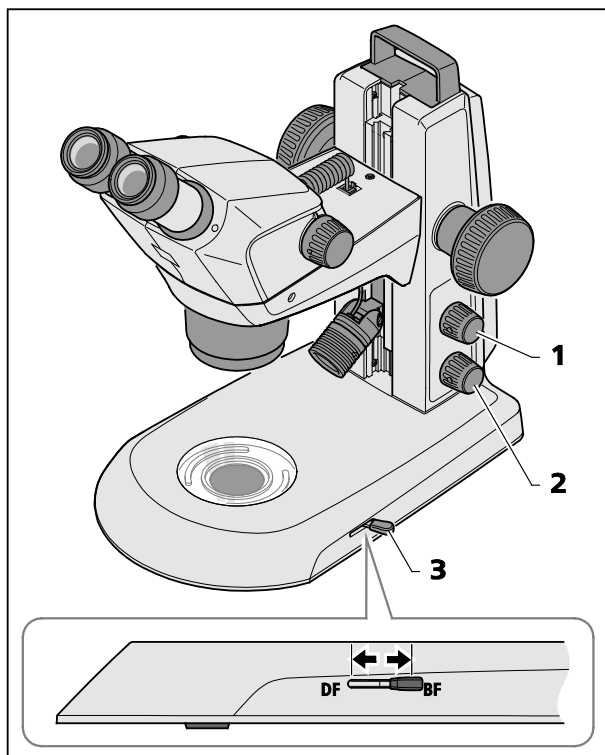

Fig. 25 Transmitted-light module in stand K EDU
- Switch transmitted-light illumination ON by pressing the lower knob (Fig. 25/2).
- Change over by adjusting the lever (Fig. 25/3) between the bright field and the dark field illumination.
- Front position: Dark field (DF)
- Rear position: Bright field (BF)
Press the upper knob (Fig. 25/1) to blend in reflected light (see Section 4.2 on page 28).